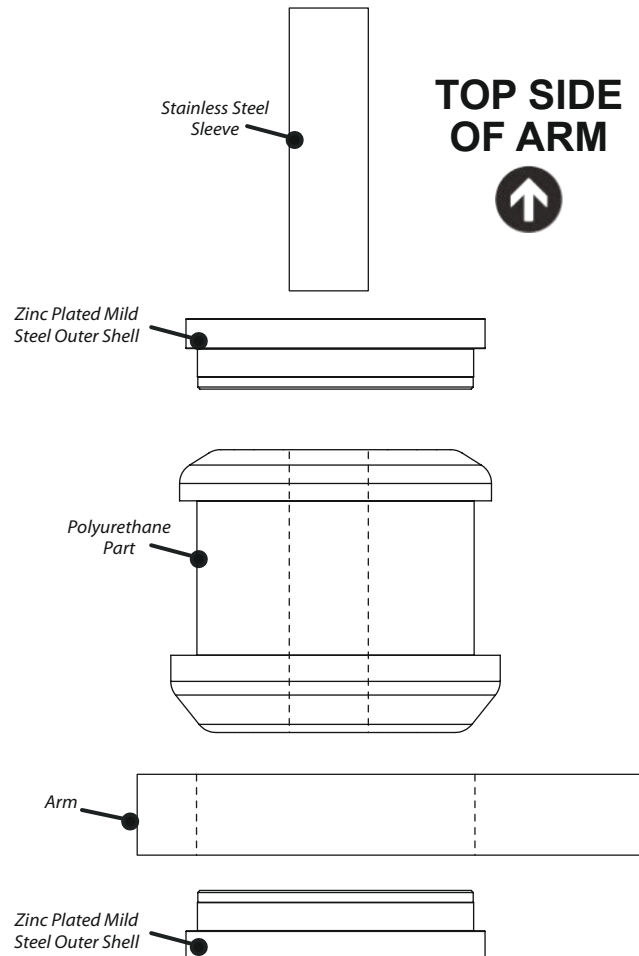

Figure 1
4. Push the polyurethane bush into the bore of the arm with the largest offset of the bush sitting on the top side of the arm, as shown in Figure 1.